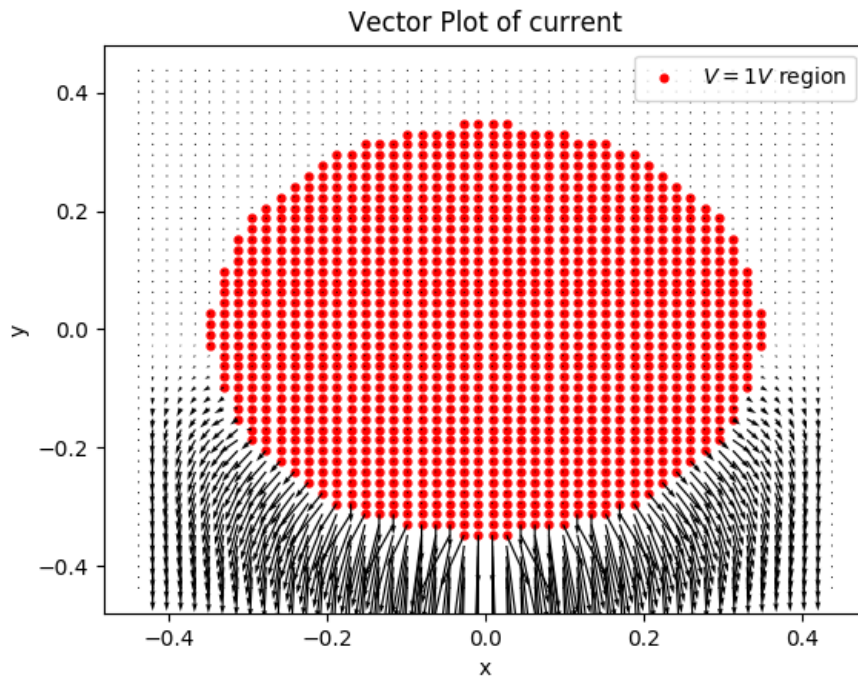

Figure 5: Vector plot of current flow
1  fig5 = plt.figure(5)
2  ax = p3.Axes3D(fig5)
5  cax = fig5.add_axes([1, 0, 0.1, 1])
9  fig5.colorbar(surfacePlot, cax=cax, orientation='vertical')
11 plt.savefig(plotsDir+'Fig5.png')